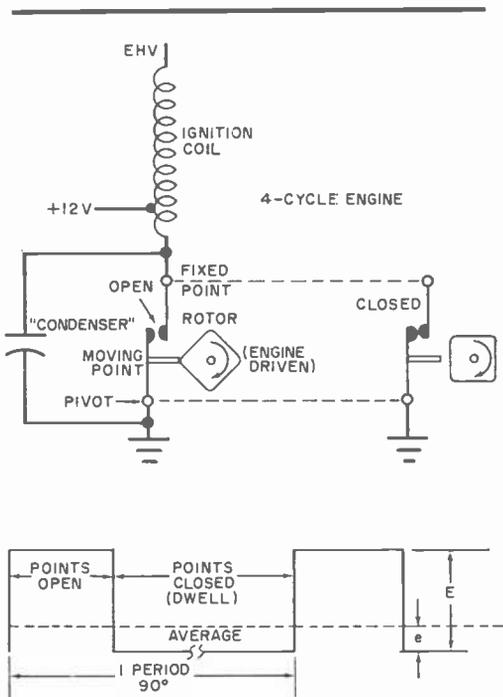

Fig. 1. Simplified ignition circuit and waveforms for a 4-cylinder engine.
**Dwell Angle.** A simplified primary ignition circuit for a 4-cylinder engine is shown in Fig. 1. When the contacts (or points) are closed, energy from the battery is stored in the ignition coil primary (in the form of a magnetic field). As the engine rotates, the distributor rotor pushes the contacts apart, thus breaking the circuit. The energy which was stored in the primary is now transferred to the secondary and the large emf produced is used to produce a spark across one of the 4 spark plugs.
zero deflection corresponds to 60°. When the waveform of Fig. 1 is inverted, two advantages are immediately obtained: the meter scale is "reversed" (The 90-, 60-, or 45-degree markings are at full-scale deflection.) This means that a typical dwell indication will be in the upper third of the meter scale instead of in the first, hence greater meter accuracy; and, easier calibration of the instrument.
**Engine Revolution.** By counting the number of times the voltage E of Fig. 1 is generated per unit time, and taking into consideration the number of cylinders in the engine, the number of revolutions per minute (rpm) can be calculated. For example, in a 4-cylinder, 4-cycle engine, the points